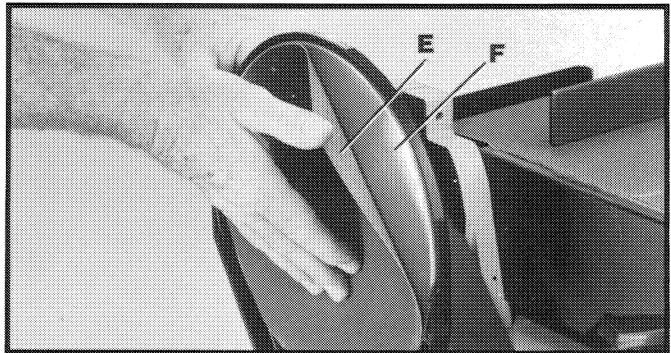

Fig. 46
4. Peel off old disc (E) as shown in Fig. 46.
5. Make sure the disc plate (F) Fig. 46, is clean and peel backing from new sanding disc. Press the new sanding disc firmly into position on disc plate (F) and replace lower cover and table assembly which were removed in **STEPS 2 and 3.**